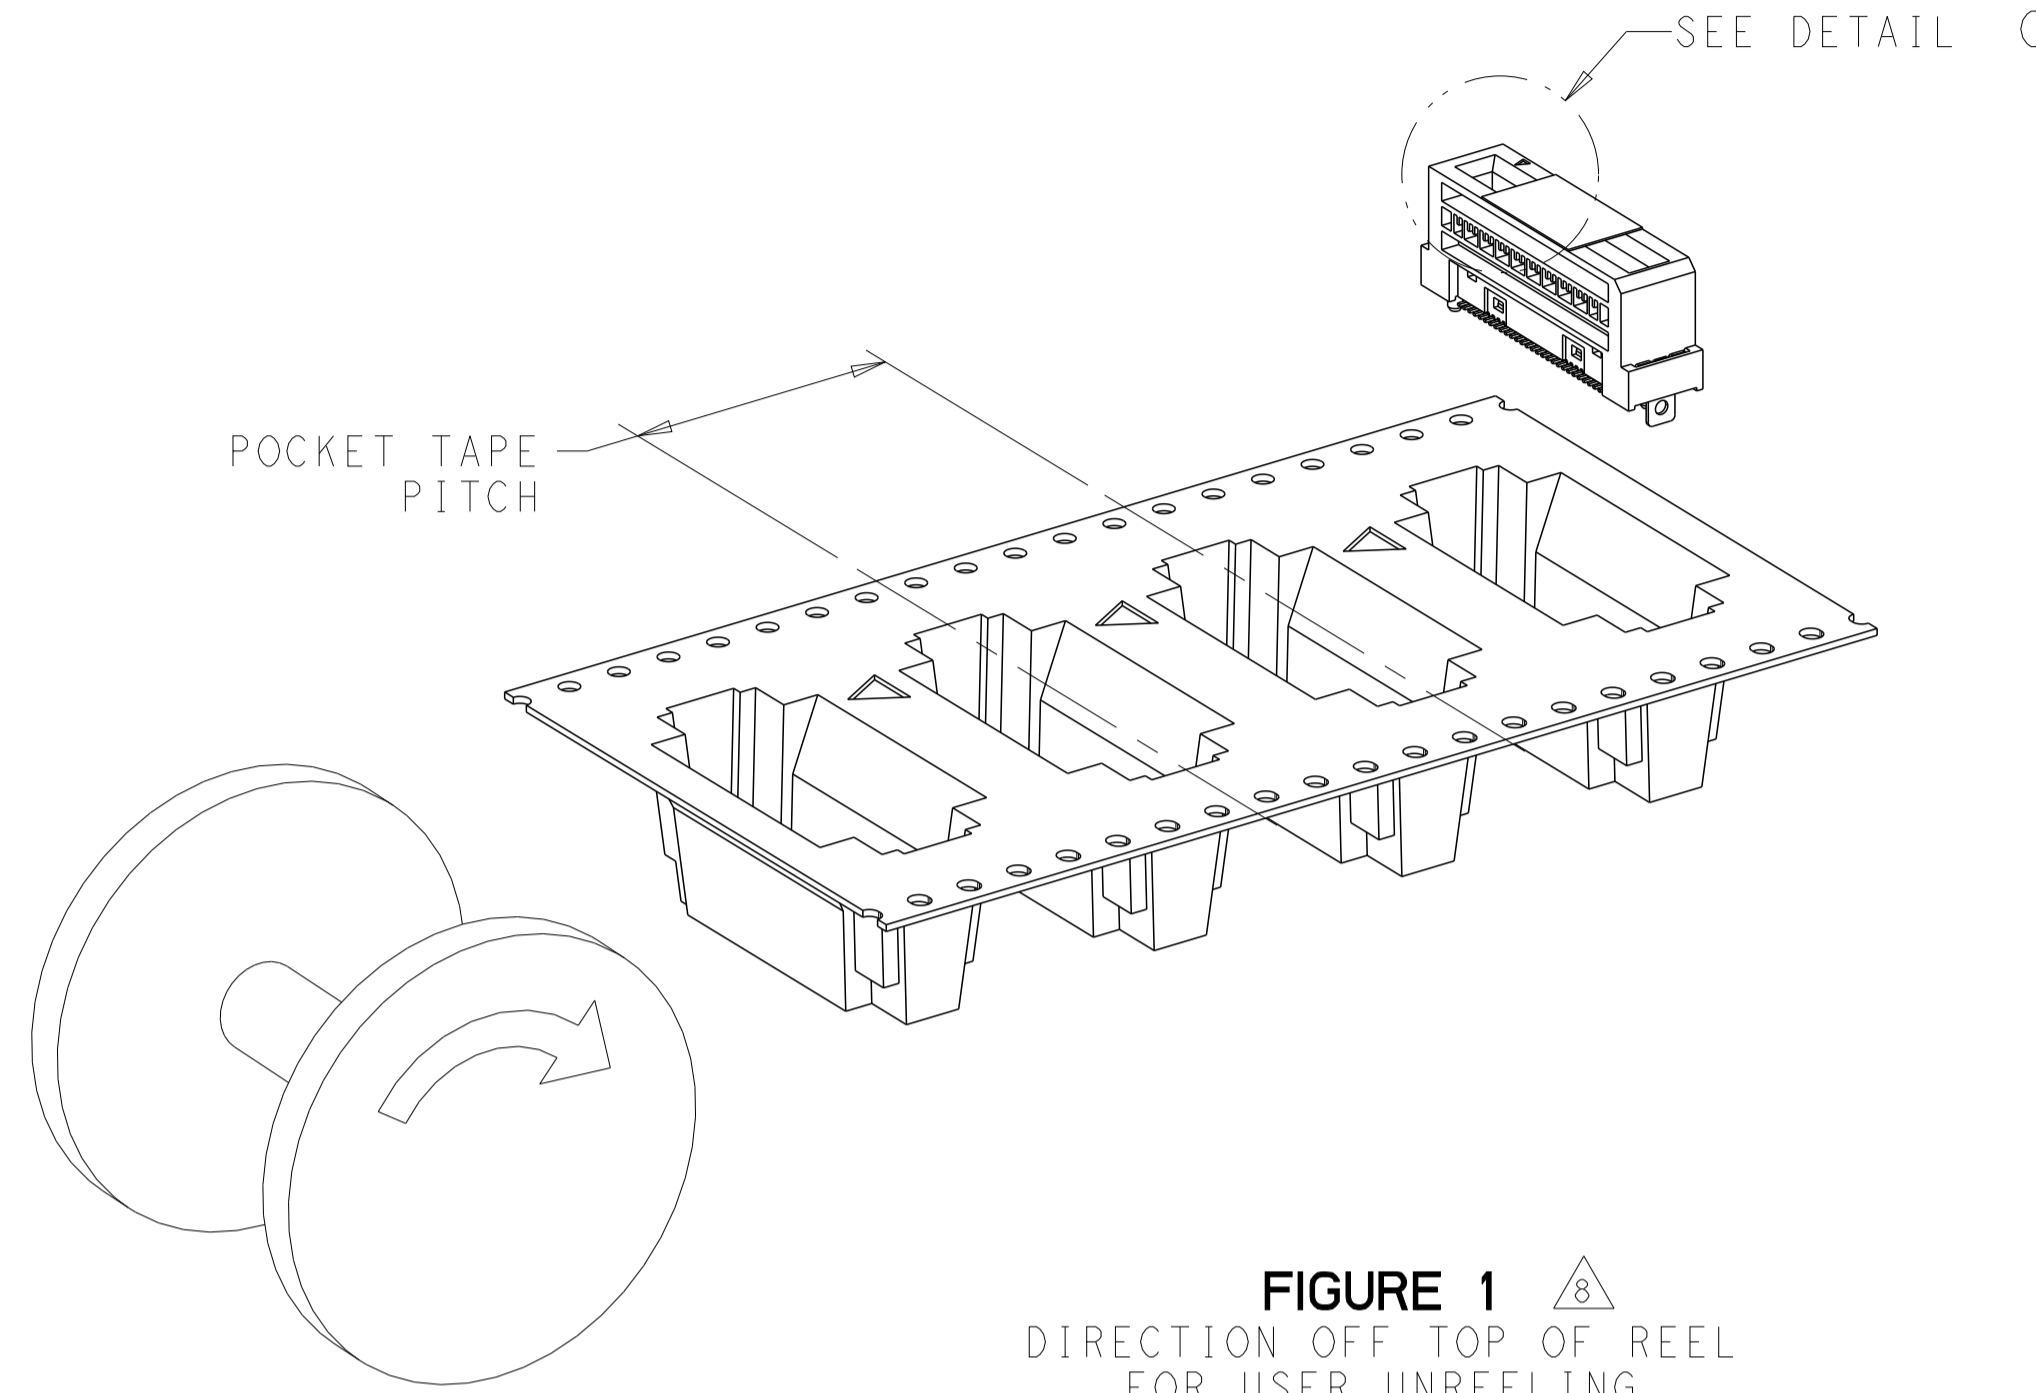

FIGURE 1
- △ TAPE AND REEL PACKAGED FOR PICK AND PLACE SMT PROCESSING, SEE FIGURE 1. POCKET TAPE WIDTH = 44.